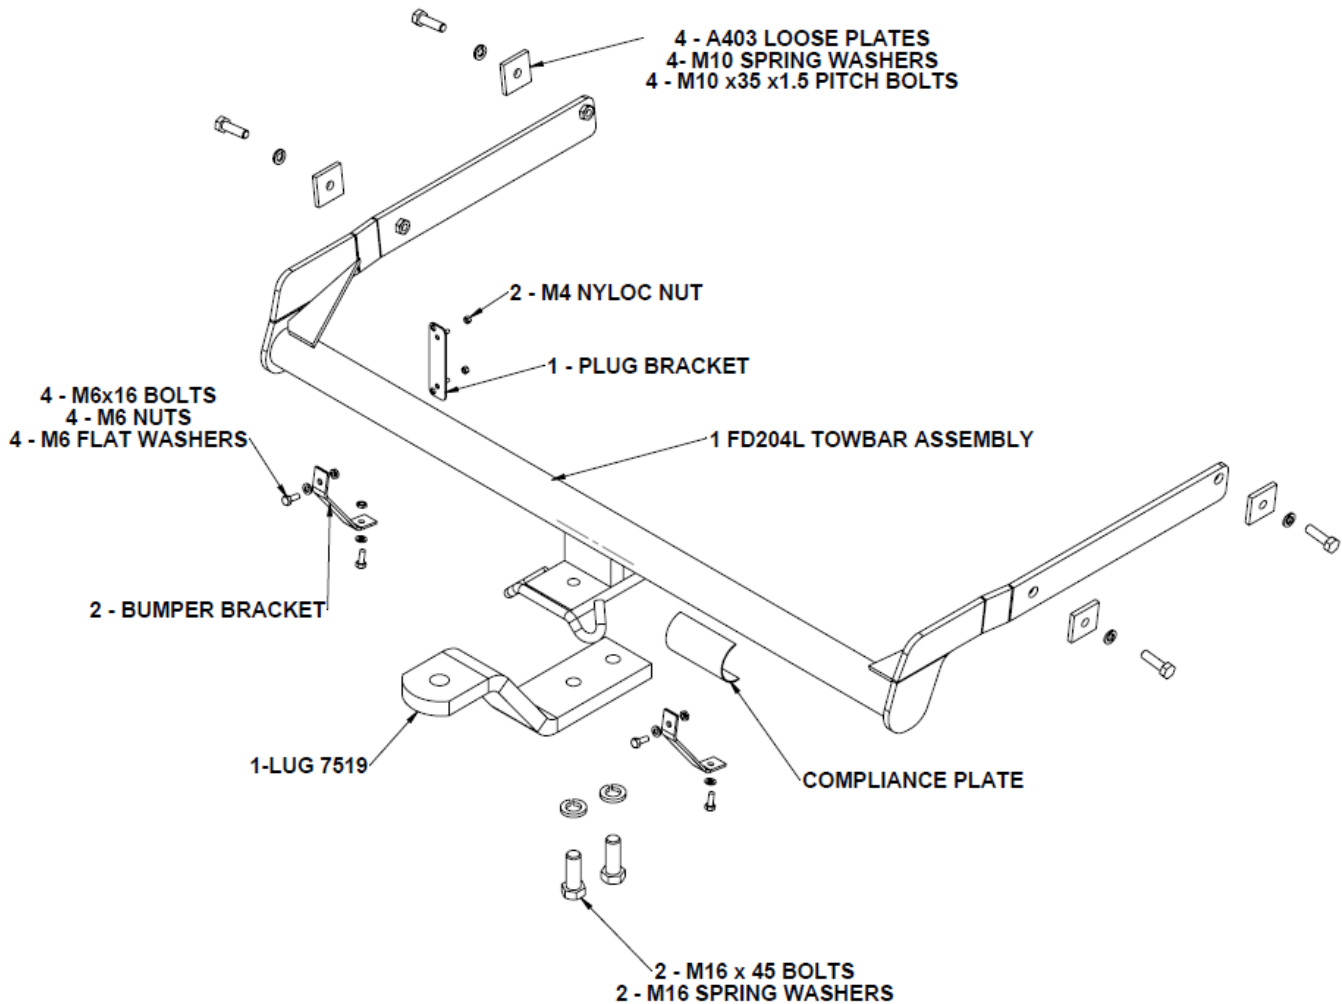

FIGURE 1
1. Ensure all hardware items shown in Figure 1 have been included.
6. Fit plates bolts & washers loosely as per figure 1 on page 3.